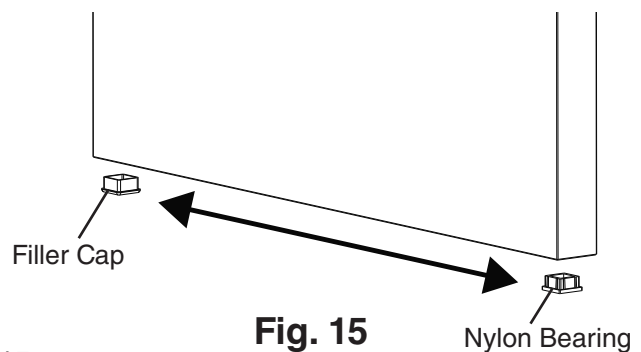

Fig. 15
- 10) Remove the filler cap and nylon bearing from the bottom of the door. See Fig. 15. Reinstall on the opposite side.